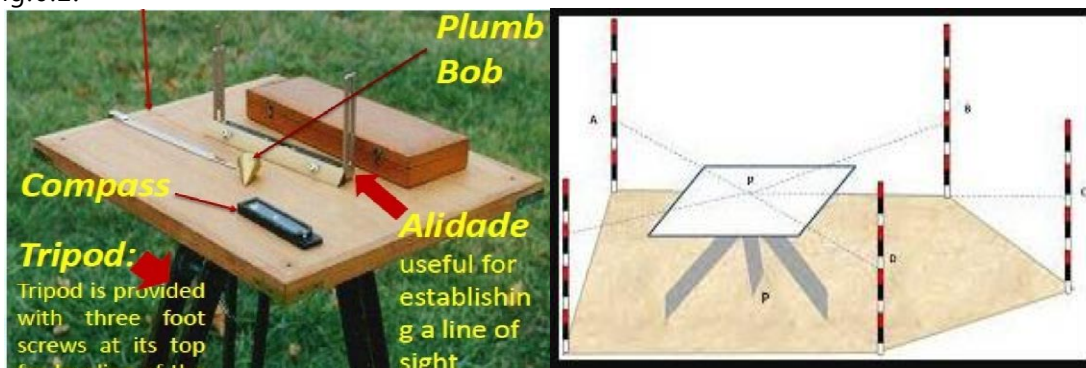

Fig.7.1 Plane table Radiation Method Fig.7.2 Area plotting by radiation method
7.1 Plot a given area of land with the use of plane table by radiation method. Fig.7.1 shows the Plane table, with accessories and plotting of an area by radiation method is as shown in Fig.6.2.